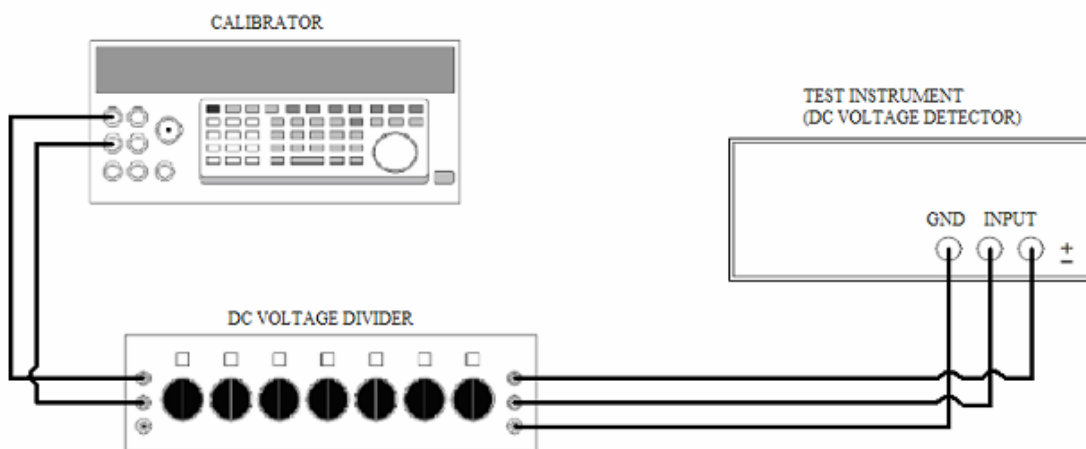

Figure 4. Dc detector voltage range calibration - equipment setup.
- (6) Connect equipment as shown in figure 4.
- (7) Turn voltage divider dials to .0010000.
- (8) Adjust calibrator output controls to 0 (zero) and set TI **POWER** switch to **ON**.
- (9) Set **DETECTOR RANGE** switch to **3 MICROVOLTS**.